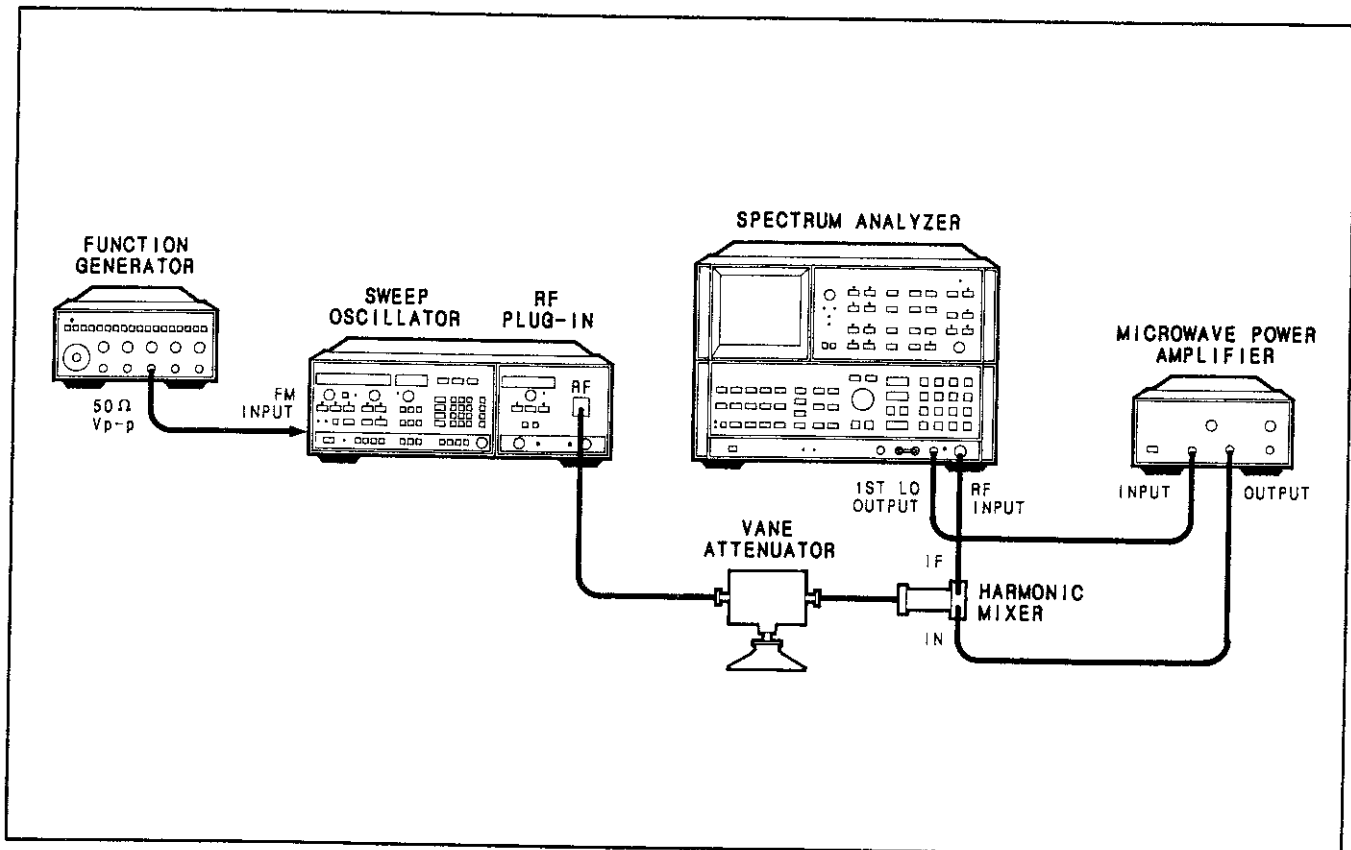

Figure 4-13. External Frequency Modulation Test Setup
1. Ensure that the RF plug-in modulation sensitivity is set to -20 MHz/volt and the modulation coupling to DC. Refer to section III of this manual for information on setting the configuration switch. Connect the equipment as shown in Figure 4-13. Set the vane attenuator to 20 dB.